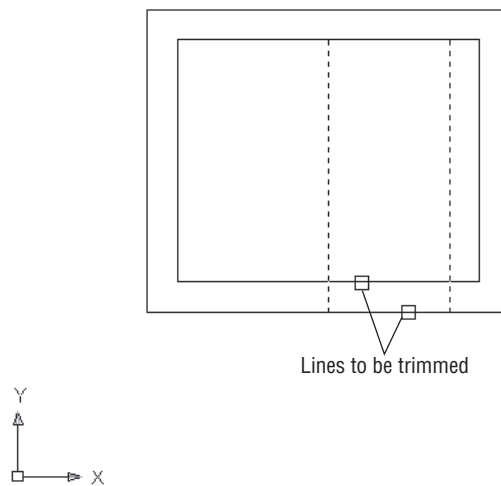

FIGURE 2.21: Lines selected to be trimmed
3. Pick the two horizontal lines across the opening somewhere between the cutting edge lines (see Figure 2.21).